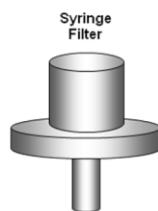

Figure 1: 0.2 μm Filter
4. After the rinses, remove the plunger from the syringe and screw the 0.2 µm filter (Figure 1) onto the end of the syringe. Transfer approximately 1-2 mL of the *least concentrated* standard into the syringe. Insert the plunger into the syringe, and push the aliquot through the filter. Discard this rinse into a waste beaker.